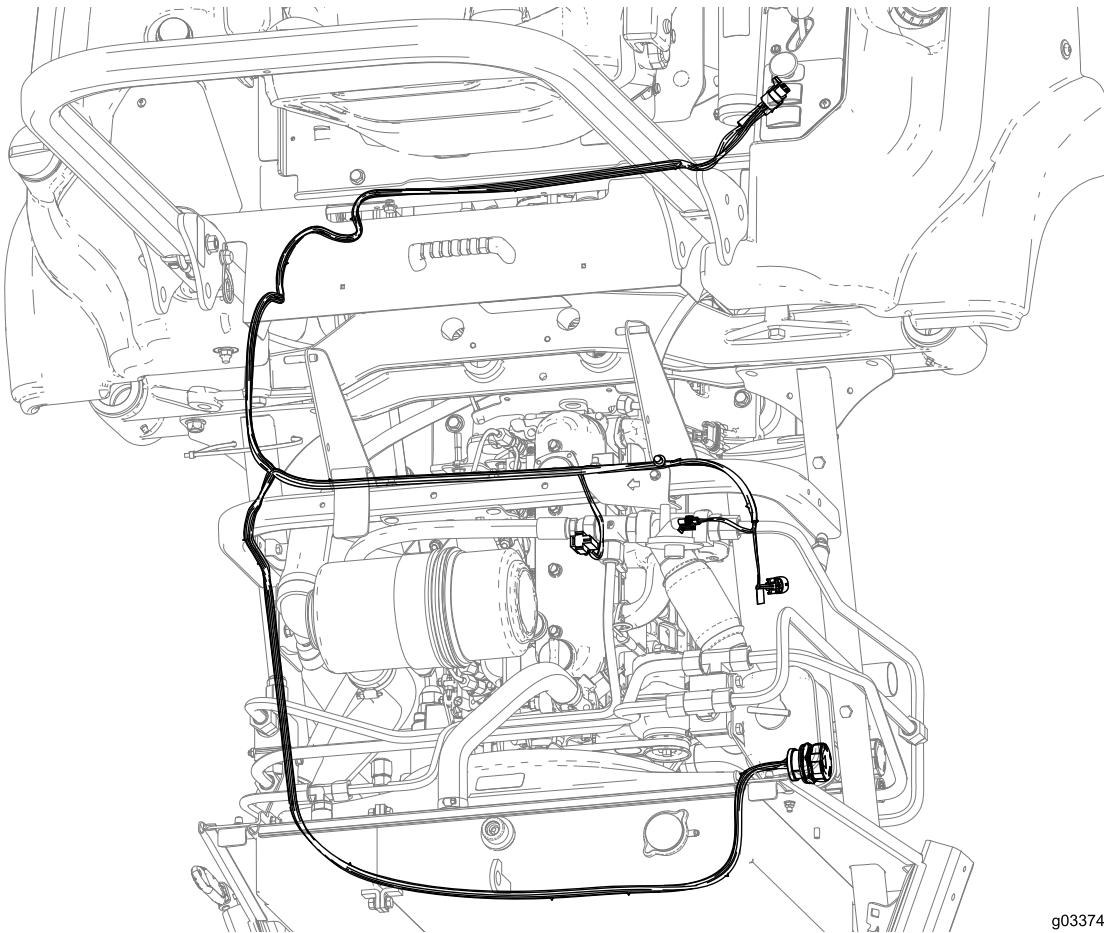

Figure 32
1. Route the wire harness as shown in Figure 32.